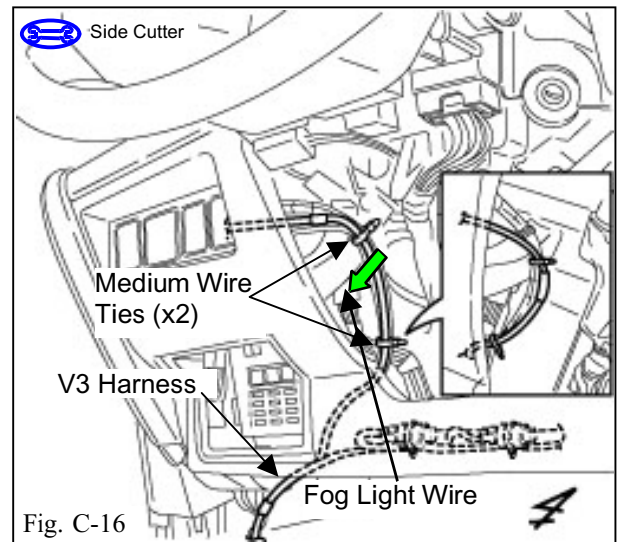

Fig. C-16
31. Route and secure the V3 harness with the black 4P connector to the vehicle harness with two medium wire ties to the left of the steering column. (Fig. C-16)